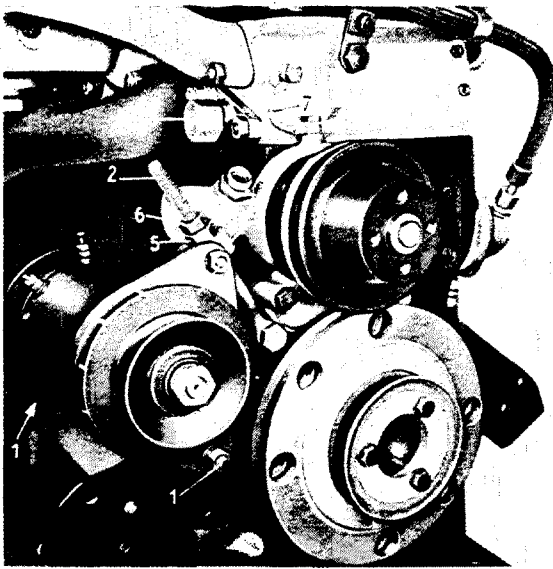

Fig. M 40/00
3. Unscrew and remove vent line from water pump to cylinder head (see Fig. M 40/00).